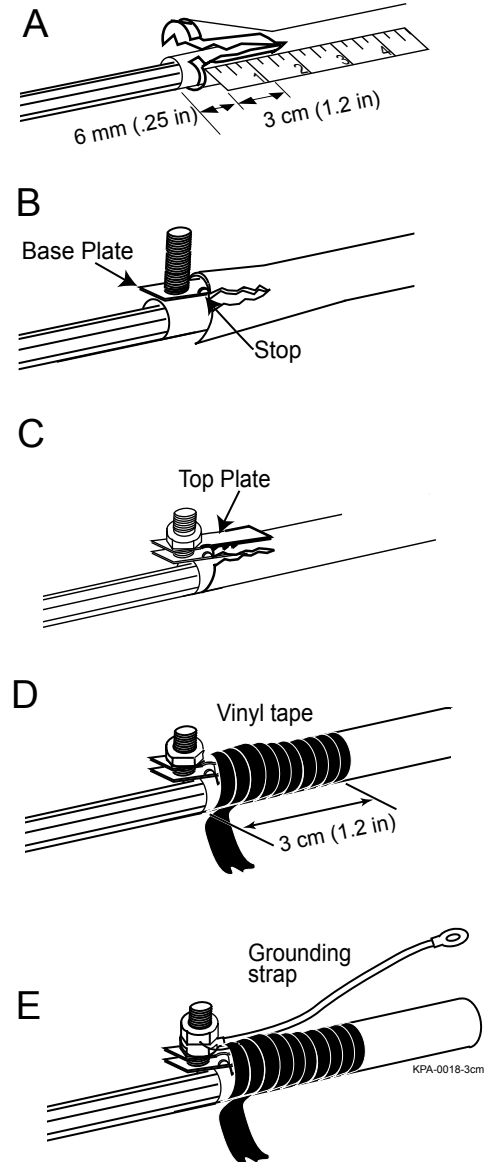

Figure 12
Step 5: If cable is armored, ground metallic cable sheath using a ground clamp (Figure 12). This clamp is generally installed below the sheath retention clamp on the strain-relief bracket. Be sure to ground the clamp to the HDF ground wire and the HDF ground wire to an earth ground with a No. 6 AWG copper conductor.